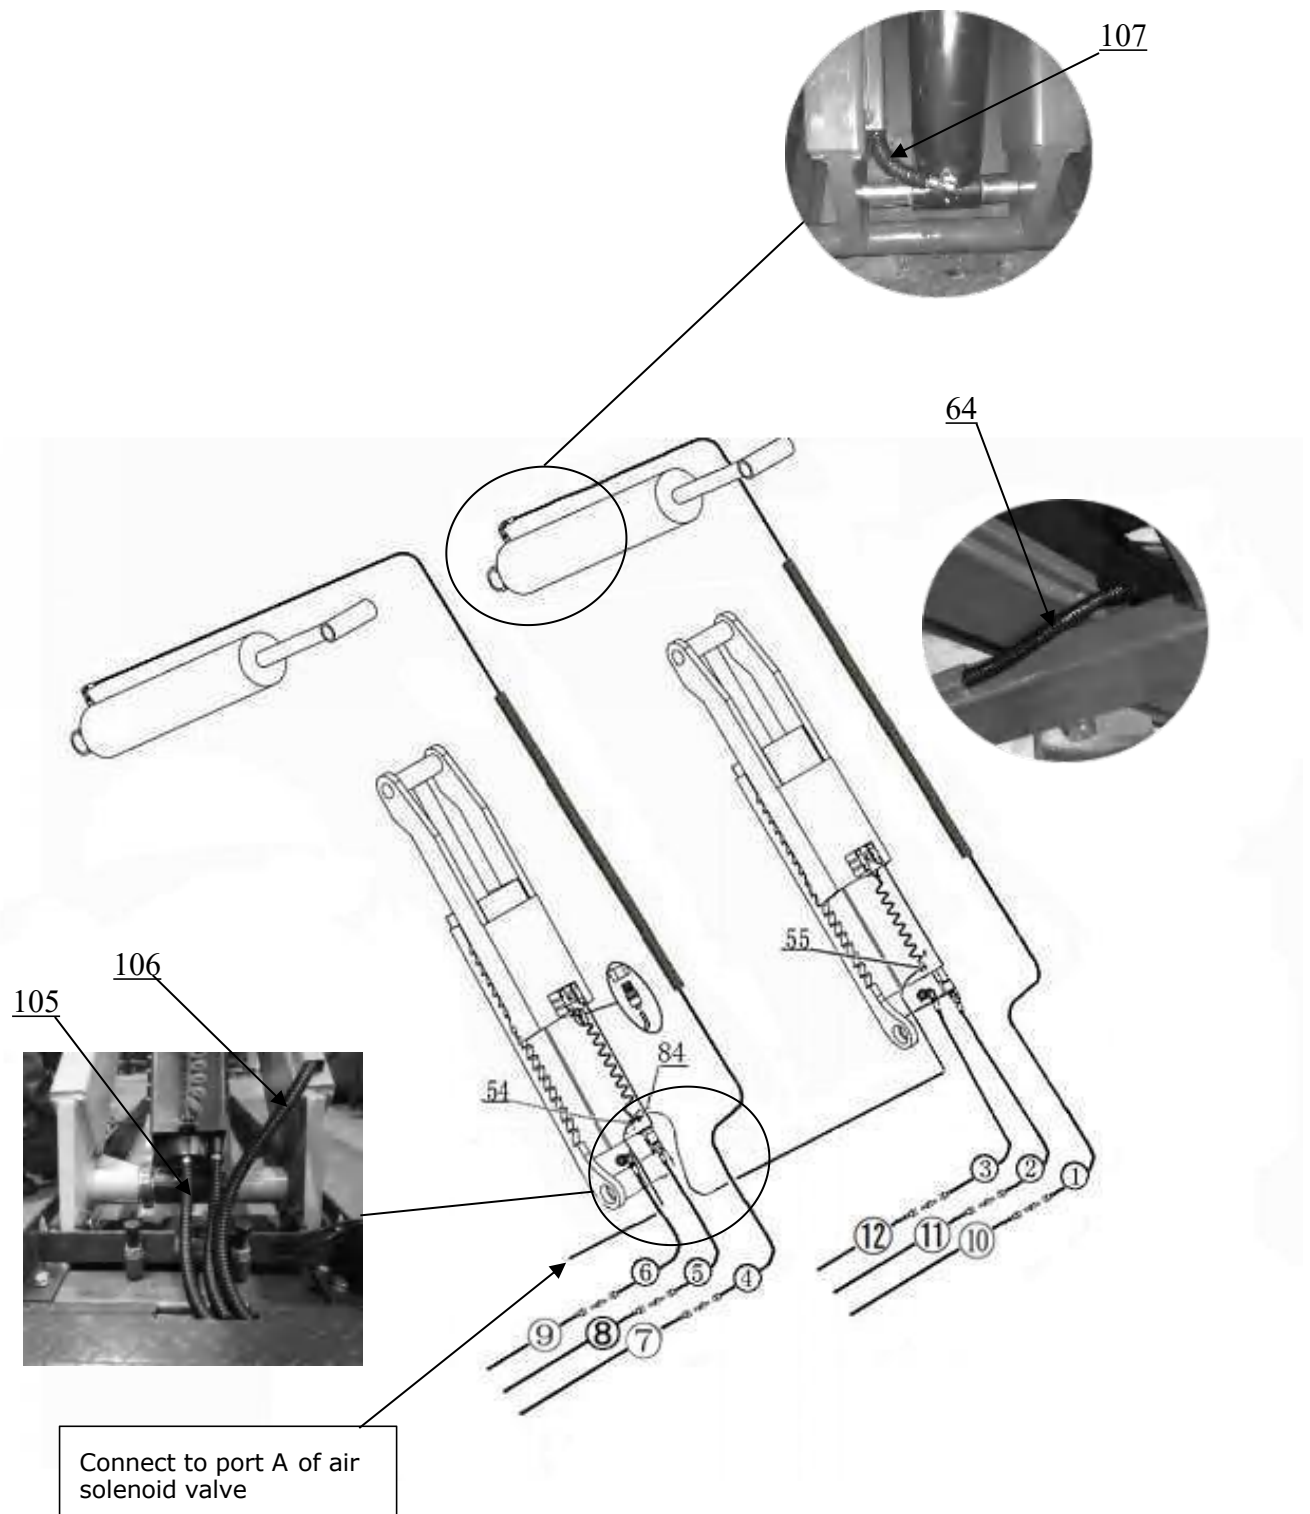

Fig.15
2.2 Connection diagram for control cabinet installed at the right side.see Fig.15